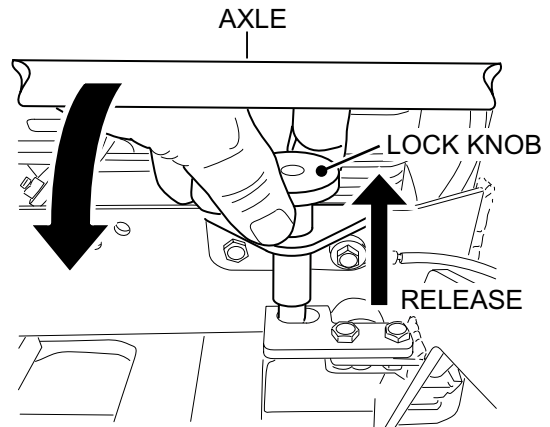

Figure 10. Lock Knob Release
- Grab hold of the lock knob (Figure 10) and pull upwards (unlocked position).